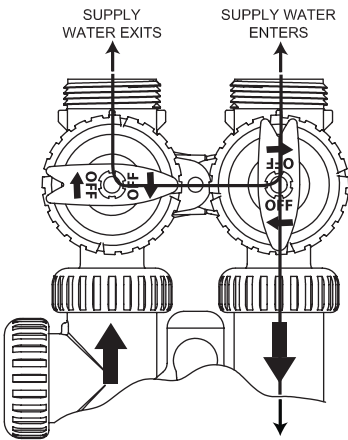

FIGURE 3
Step 2: Press and Hold the REGEN button on the Triton until you hear the motor engage. This will initiate an immediate manual regeneration of the system. Refer to the table on page 7 for Triton cycles of operation. Turn the bypass valve to "diagnostic" mode position (see figure 3 on page 10). (You should hear water entering the system.) Wait a few minutes to ensure the control valve can draw water and does not leak. Allow the system to backwash until the water going to drain is clear. If everything is working, press and release the REGEN button. You will hear the motor engage and move the piston into the "Brine Dn" position. Check the brine line for leaks or suction. You should hear the valve drawing brine. Continue to skip cycles by pressing and releasing the REGEN button (wait for the motor to stop before pressing REGEN) until you reach the "Brine Fill" position. This ensures that water will go to the brine tank. Fill tank 3" to 4" above salt grid. Make sure enough water is in the brine tank to dissolve the correct amount of salt for regeneration (1 gallon of water will dissolve 3 lbs. of sodium chloride). Allow the brine tank to fill with water to air check level. If the system needs 6 lbs. of salt to regenerate, then at least 2½ gallons of water must be in the brine tank above air check in the brine well. The extra ½ gallon is an additional measure for evaporation or loss. ($6 \div 3 = 2$ gallons of water plus ½ gallon). Fill the brine tank with salt. (We recommend potassium chloride (KCl) instead of rock salt.) Once the brine tank is filled to this level, press REGEN once more to return the valve to service. You should hear the motor engage for a short period and then a long period.
Figure 3. Diagnostic Position: The inlet handle points in the direction of flow and the outlet handle points to the center of bypass valve, system water pressure is allowed to the control valve and the plumbing system while not allowing water to exit from the control valve to the plumbing.